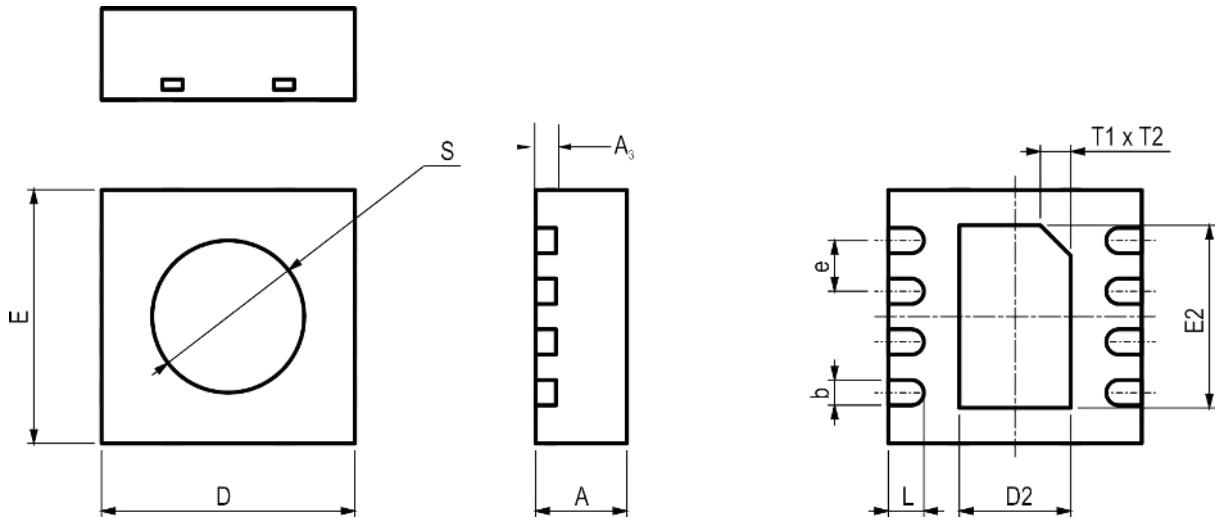

Figure 6. Dimensional drawing of SHT33-DIS sensor package
All SHT33-DIS sensors are laser marked for easy identification and traceability. The marking on the sensor top side consists of a pin-1 indicator and two lines of text. The top line consists of the pin-1 indicator which is located in the top left corner and the product name. The small letter x stands for the accuracy class. The bottom line consists of 6 letters. The first two digits XY (=DI) describe the output mode. The third letter (A) represents the manufacturing year (4 = 2014, 5 = 2015, etc). The last three digits (BCD) represent an alphanumeric tracking code. That code can be decoded by Sensirion only and allows for tracking on batch level through production, calibration, and testing – and will be provided upon justified request. If viewed from below pin 1 is indicated by triangular shaped cut in the otherwise rectangular die pad. The dimensions of the triangular cut are shown in **Figure 6** through the labels T1 & T2.